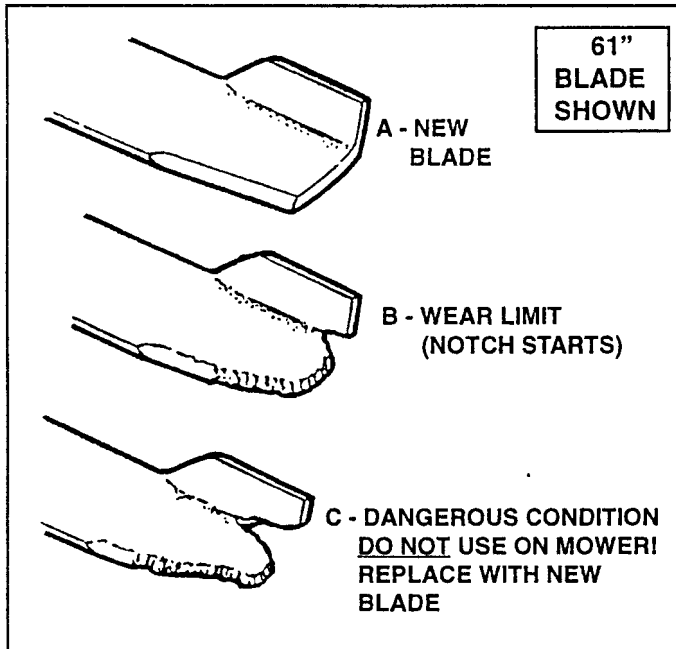

FIGURE 9.1
A. When performing service on a mower unit, be sure to check the Cutting Blades for damage or signs of excessive wear. See Figure 9.1 for blade wear limits.
- C. Clean and inspect each Blade for excessive wear and damage. Refer to Figure 9.1.
Never allow a customer to take a mower out of your repair shop with a Cutting Blade worn to the extent shown in illustration "C" of Figure 9.1, without warning that customer of the danger that a tip could fly off and cause either personal injury or property damage.